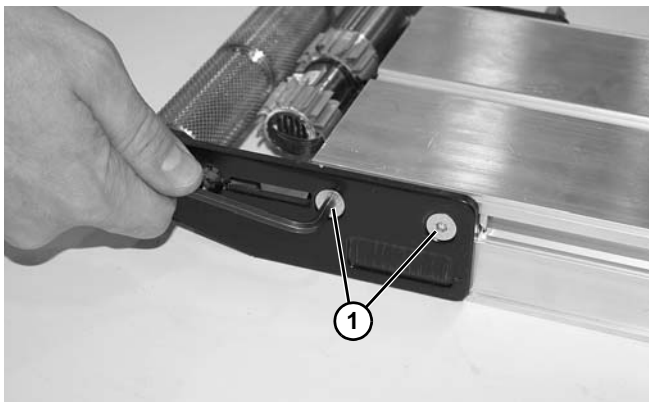

Figure 98
7. Remove two head plate fastening screws (Figure 98, item 1) from opposite side of conveyor.